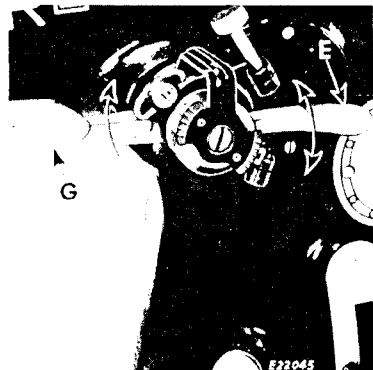

Fig. 38
**SETTINGS:** Bight control lever **E** at any desired setting **between lowest and highest** point and position lever **G** at **highest** point, as shown in Fig. 38.